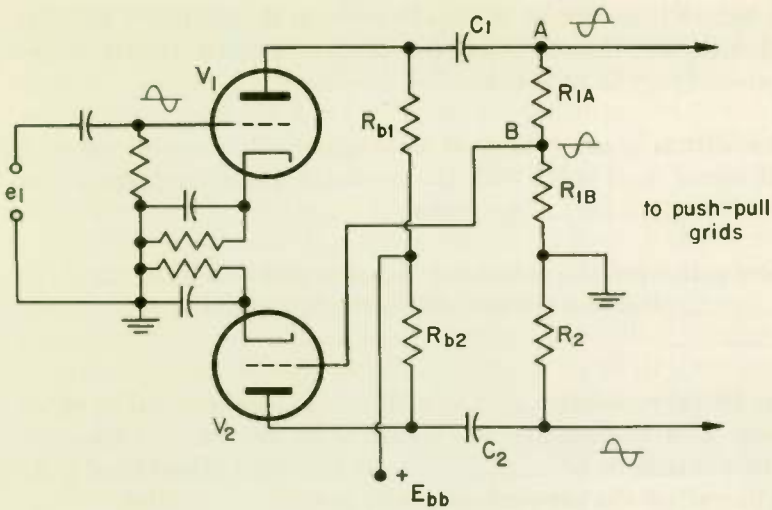

Fig. 20 Two-tube phase inverter.
A phase-inverter circuit which does provide substantial gain is shown in Fig. 20. Two tubes are usually employed. Tube V_1 is connected as in any normal RC -coupled amplifier. If the stage gain is 20 and if an input signal of 1 volt is applied, the output voltage from point A to ground will be 20 volts. Now notice that what is normally the grid resistor for the next stage actually consists of two resistors, R_{1A} and R_{1B} .
8. In Fig. 20, (a) resistors _____ and _____ are critical in value. If the stage with V_1 normally has a gain of 35, the ratio of these resistor values should be (b) _____. If the input signal level is 0.5 volt, the output at the plate of each tube is (c) _____ volts.